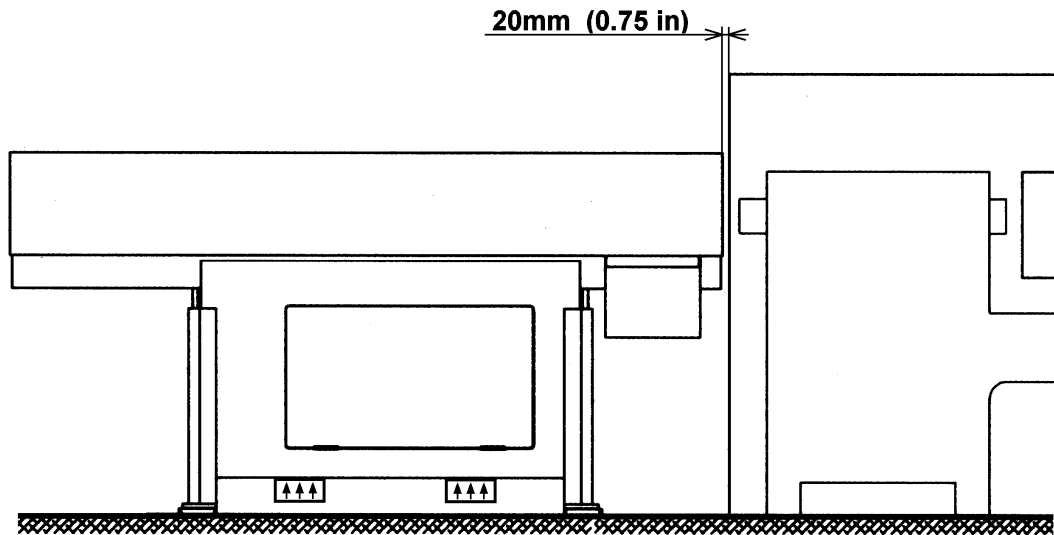

Fig. 2.1 Barfeeder Lifting and Setting
- Put the barfeeder on the rear side of the lathe as shown in Fig. 2.1. The distance between the rear side (rear end) of the lathe spindle and front cover of the barfeeder should be as small as possible. The gap between the barfeeder cover and lathe cover must not exceed 20 mm or it is necessary to disable insertion of the hand palm between the barfeeder and the lathe.
Observe prescribed distances in installation, see Fig. 2.1.